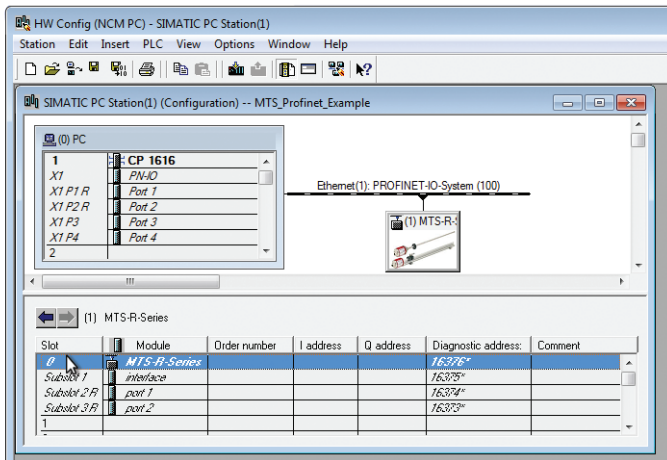
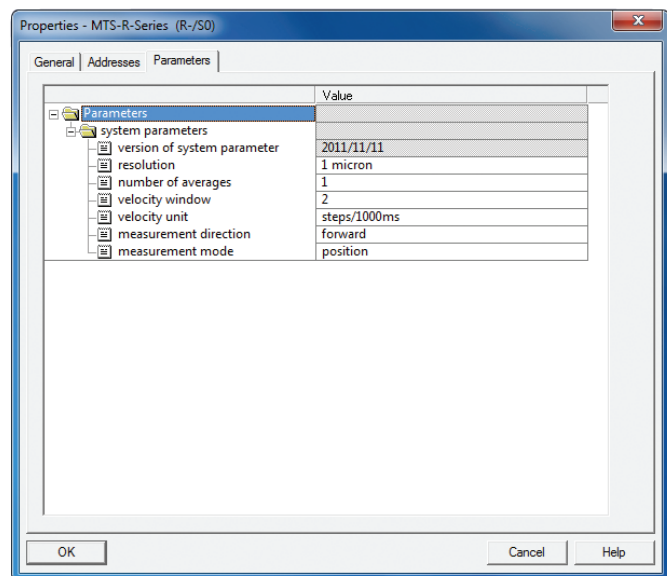

Fig. 37: HW Config (source: Siemens)
Fig. 38: Properties – MTS-R-Series (source: Siemens)
4. Double-click Slot "0" to open a configuration dialog box (Fig. 37). Select tab "Parameters" to realize the following sensor settings (Fig. 38):